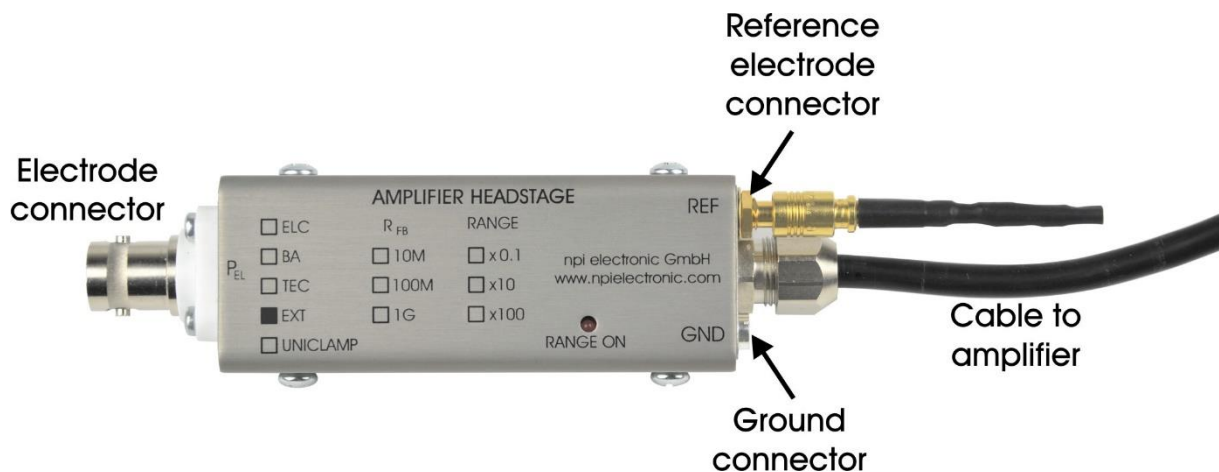

Figure 3: headstage of the EXT-02 B
**Very Important:** EXT-02 B headstage are always labeled “EXT-02 B” (see Figure 3) and must not be exchanged with headstages from other npi electronic EXT amplifiers, e.g. the modular (EXT-10 2F or EXT-10C) or desktop (EXT-02F) which are labeled “EXT” or “EXT-02”!